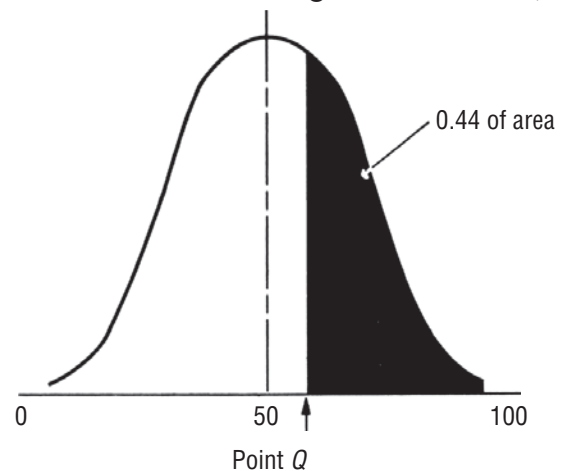

FIGURE 17-2 NORMAL PROBABILITY DISTRIBUTION, WITH 0.44 OF THE AREA UNDER THE CURVE SHADED
Figure 17-2 illustrates the 0.44 probability that must exist before it pays our manager to stock another unit. He will stock additional units until he reaches point *Q*. If he stocks a larger quantity, the shaded area under the curve drops below 0.44 and the probability of selling another unit or more falls below the required 0.44. How can we locate point *Q*? As we saw in Chapter 5, we can use Appendix Table 1 to determine how many standard deviations it takes to include any portion of the area under the curve measuring from the mean to any point such as *Q*. In this particular case, because we know that the shaded area must be 0.44 of the total area, the area from the mean to point *Q* must be 0.06 (the total area from the mean to the right tail is 0.50). Looking in the body of the table, we find that 0.06 of the area under the curve is located between the mean and a point 0.15 standard deviation to the right of the mean. Thus we know that point *Q* is 0.15 standard deviation to the right of the mean (50).